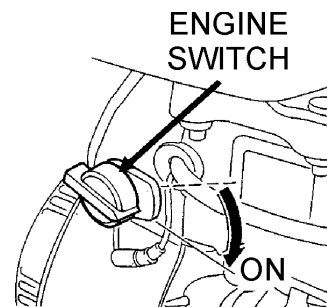

Figure 24. Engine ON/OFF Switch (ON Position)
5. Place the ***engine ON/OFF switch*** (Figure 24) in the "**ON**" position.